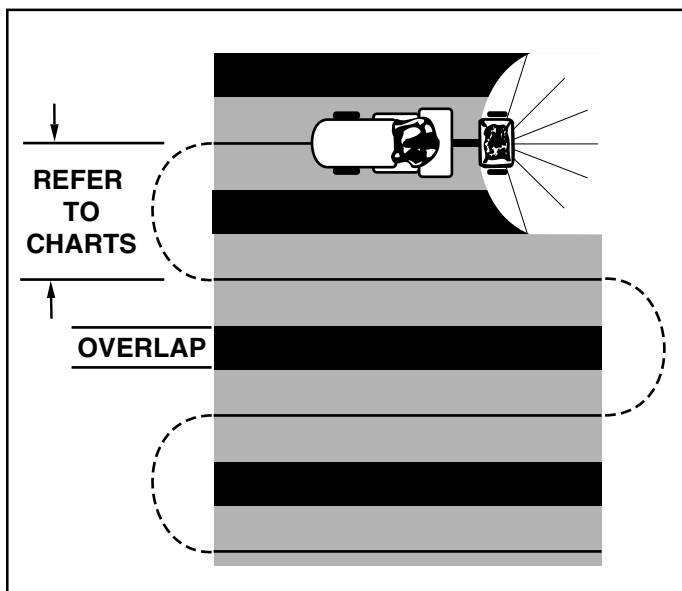

FIGURE 15
10. To insure uniform coverage, make each pass so that the broadcast pattern slightly overlaps the pattern from the previous pass as shown in figure 15. The approximate broadcast widths for different materials are shown in the application chart on this page.